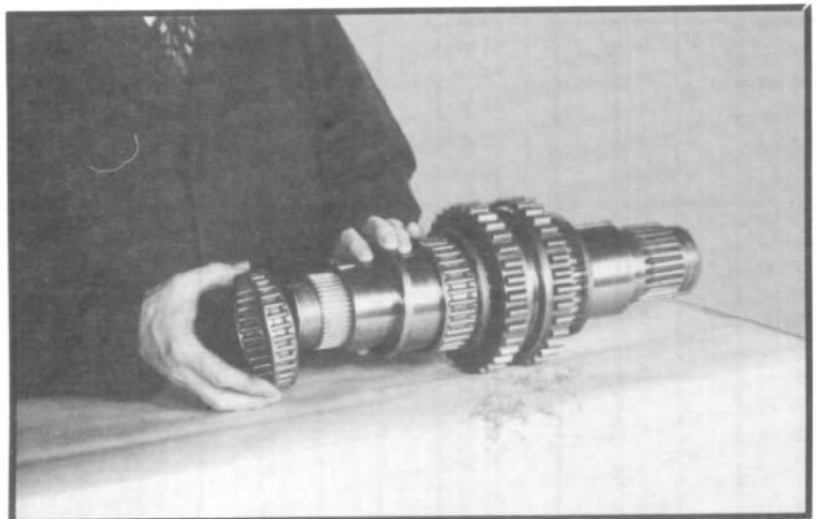

Fig. 140
- 3.4 Slide the two needle bearing assemblies and spacer ring over the front of the shaft. The wider needle bearing, first; spacer ring, second and narrower needle bearing, last. (See fig. 140.)